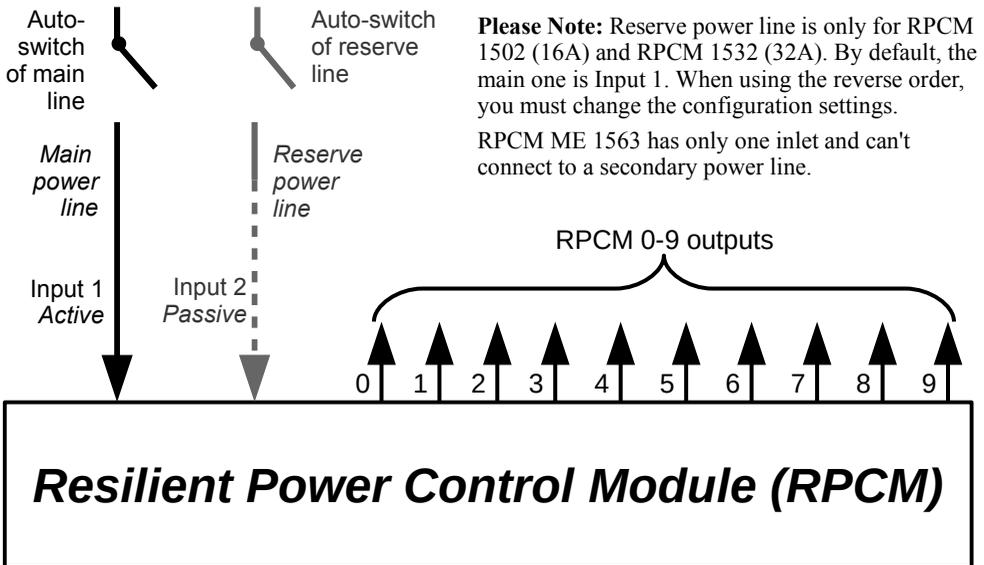

Fig. 3. Wiring Diagram for Resilient Power Control Module
3. Prepare to connect the power lines as shown in Fig. 3.